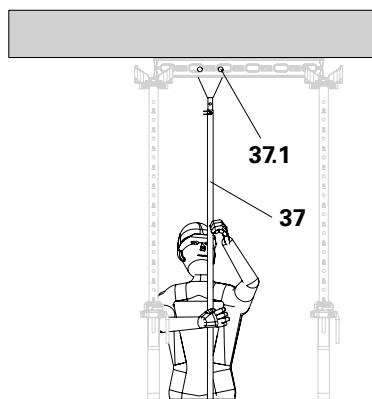

Fig. D5.01a
2. Remove DUO couplers (21) before lowering the slab props.
3. Insert both flanges (37.1) of the DUO shuttering aid (37) into the connector pockets of the DP panel.
5. Pull the DP panel down onto the prop with the DFH prophead (32) and set it back down onto the DUO shuttering aid (37). (Fig. D5.01a + D5.01b)